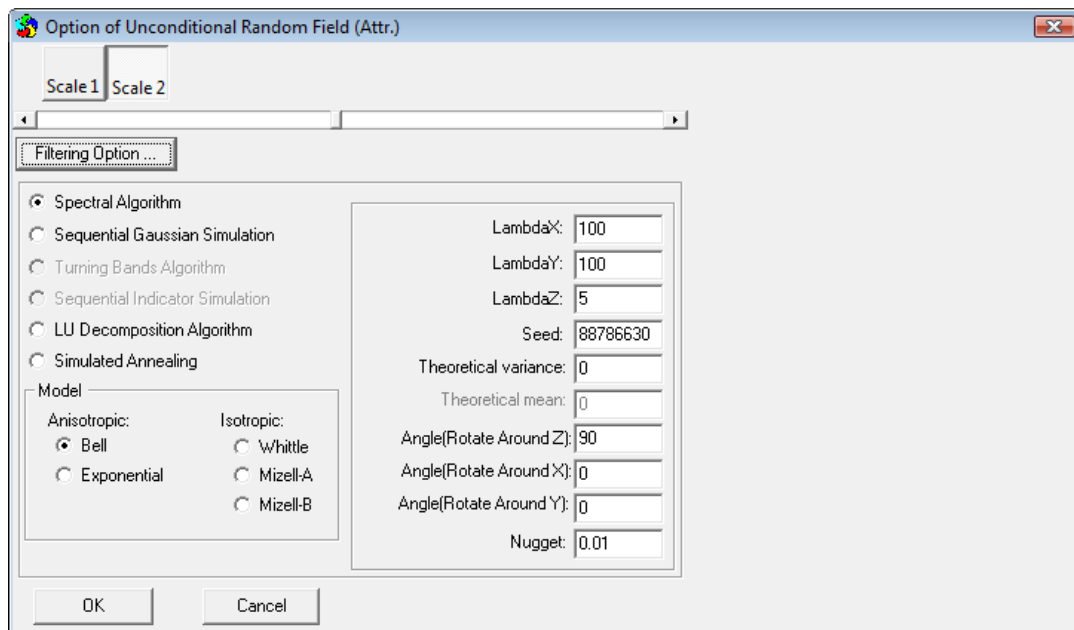

Figure 18-1 Option of Unconditional Random Field (Attr.) window
- Check the box before the 'Random' button and then click on the 'Random' button; this will open the 'Option of Unconditional Random Field (Attr.)' window as shown in **Figure 18-1**. Here, the user can specify correlation scales (LambdaX, LambdaY etc.), theoretical variance, rotation angle and nugget. The user can also select the algorithm and model type to generate random field. Click 'OK' when finished with appropriate selections have been made and required values entered.